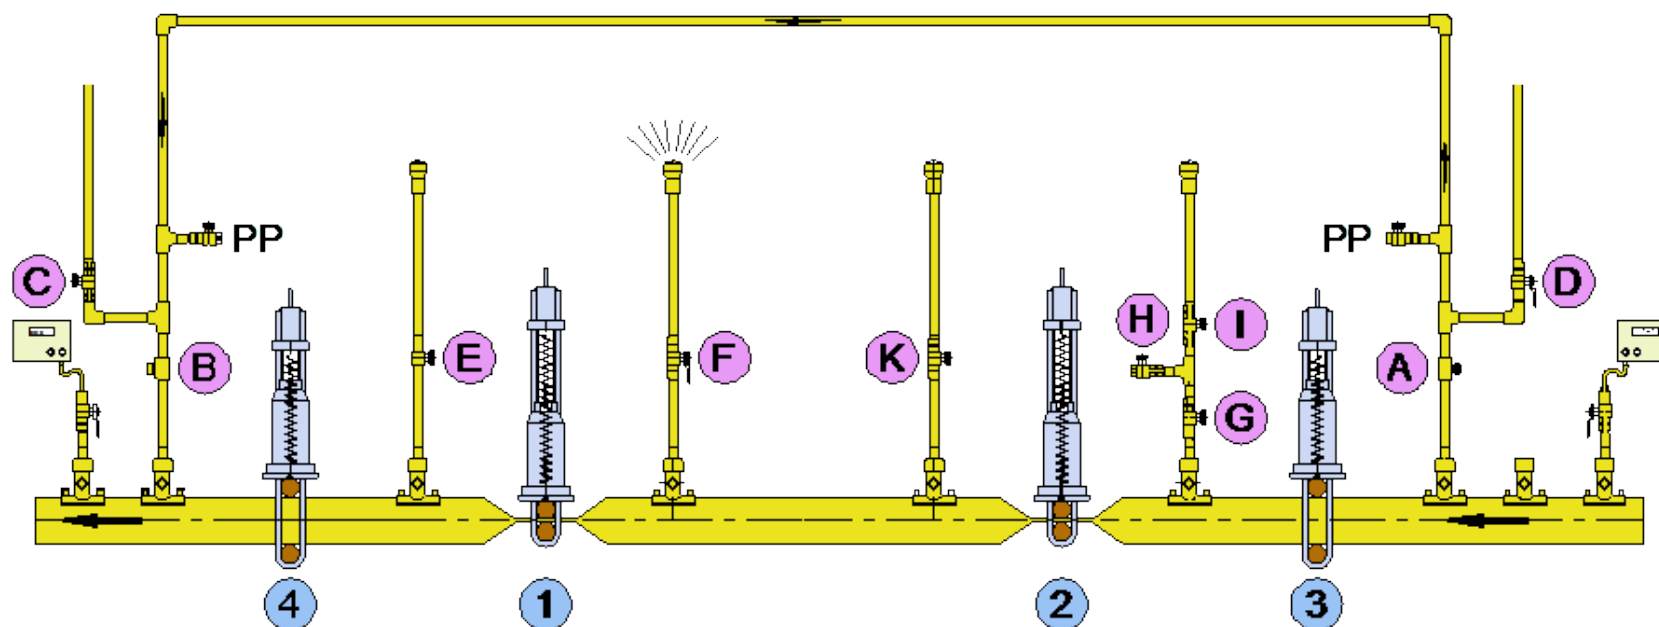

Figure 53- Squeeze-Off 1 & 2
3. Slowly apply downstream squeeze-off unit 1 until it reaches its stop. see Figure 53.